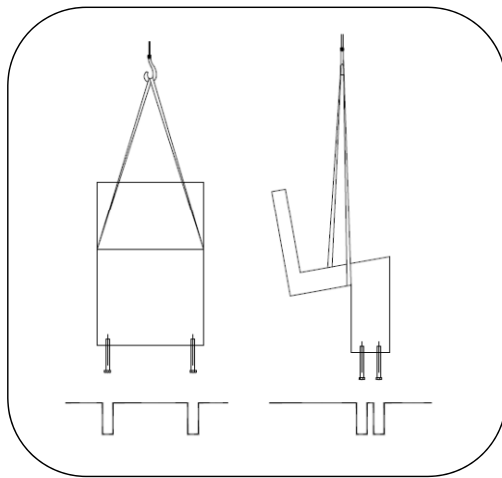

Fig. 1 – Crane install
1. Set in place with proper equipment such as a forklift or crane. See Fig. 1.